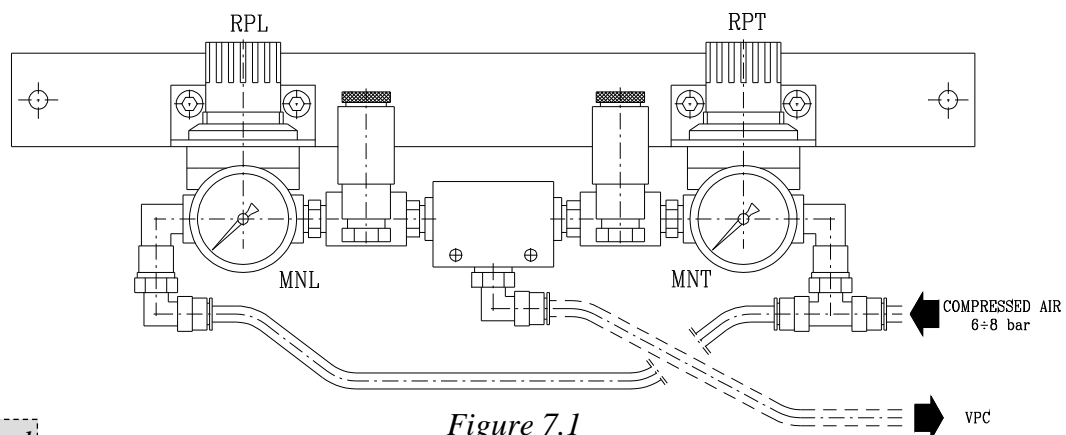

Figure 7.1
- no. 1 constant pressure valve, to maintain constant the counter-pressure at the outlet of the skim milk. The regulation is performed by acting on pressure regulators (RPL, RPT - fig. 7.1) placed on the back side of electric panel;
The supply is complete of the following pneumatic components (fig. 7.1):
- Rotate the pressure regulator of the bowl overflow RPT (fig. 7.1) until on MNT (fig. 7.1) could be read a pressure of about 6 bar.